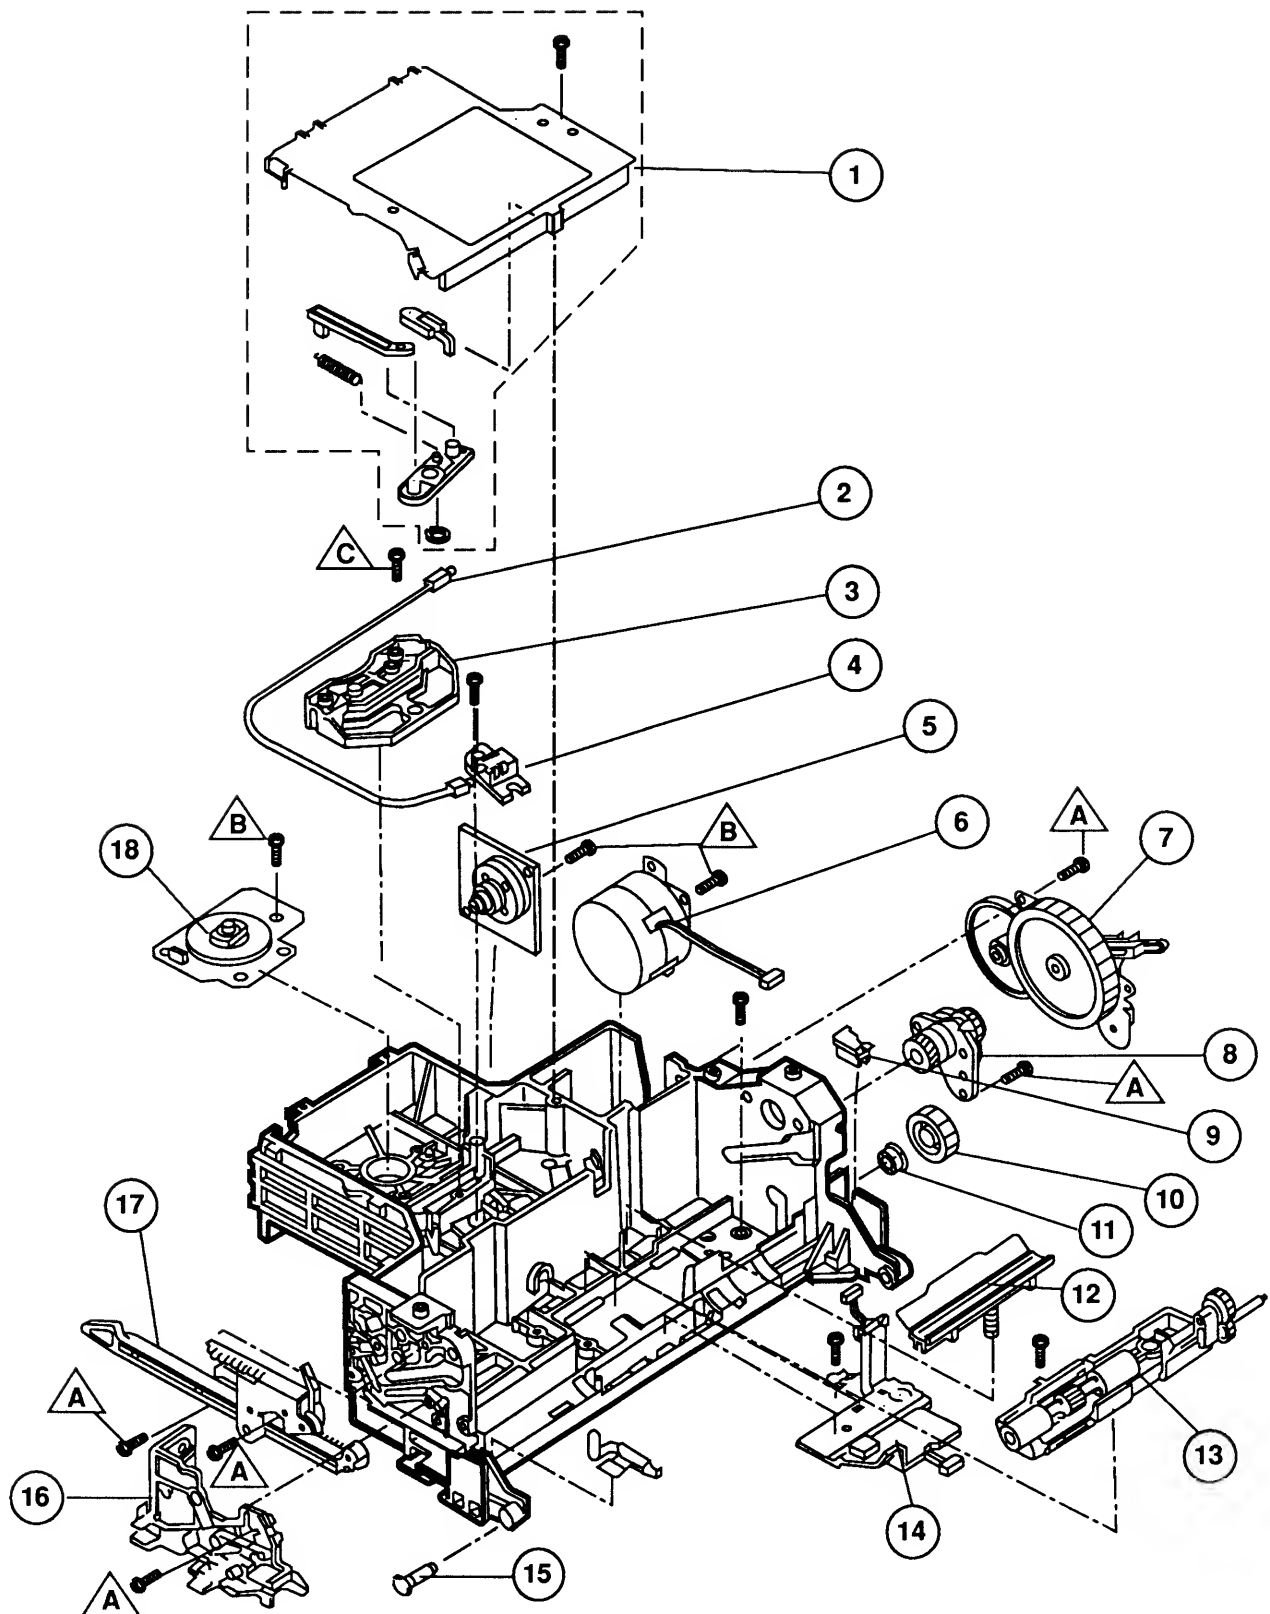

Figure 8
□ INTERNAL ENGINE ASSEMBLY (Figure 8)